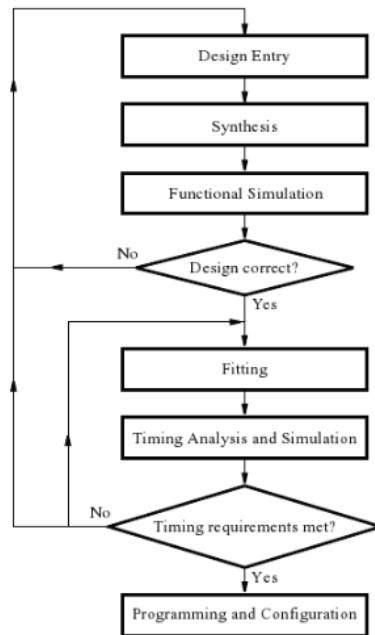

Figure 1. Typical CAD flow.
**Altera Quartus II** is a Computer Aided Design (CAD) software makes it easy to implement a desired logic circuit by using a pro-grammable logic device, such as a field-programmable gate array (FPGA) chip. A typical FPGA CAD flow is illustrated in Figure 1.